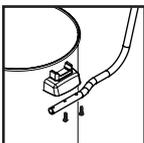

FIGURE 19
15. Position metal carriage handle outside of tank and under the tank handles. Be sure to spread ends of carriage handle when assembling to prevent damage to tank. Line up holes in ends of carriage handle with holes in bottom of tank handles. Make sure carriage handle is in the U-shaped cut in the tank handles (located towards rear of unit). Secure with 1½" screws provided. **FIGURE 19.**